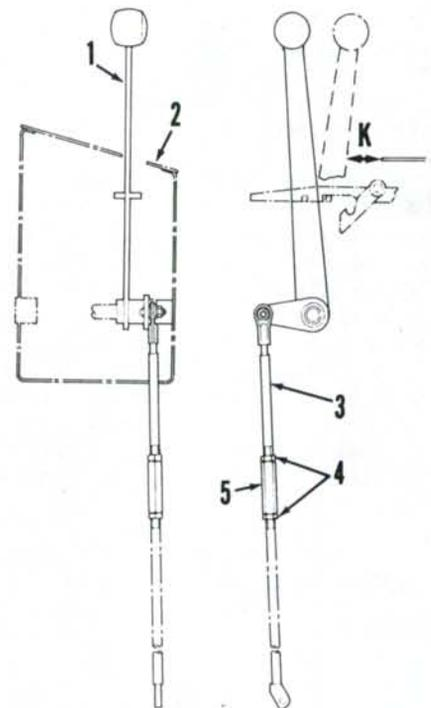

Fig. 255—With quadrant control lever moved rearward to full lift position, distance (K) between lever and end of quadrant slot should be 36 mm (1-7/16 inches).
**320. LIFT LINKAGE CONTROL LEVER ADJUSTMENT.** Move control lever rearward to full lift position. Distance (K—Fig. 255) between rear edge of control lever (1) and end of quadrant slot should be 36 mm (17/16 inches). To adjust, loosen locknuts (4) and turn control rod adjuster (5) as necessary.